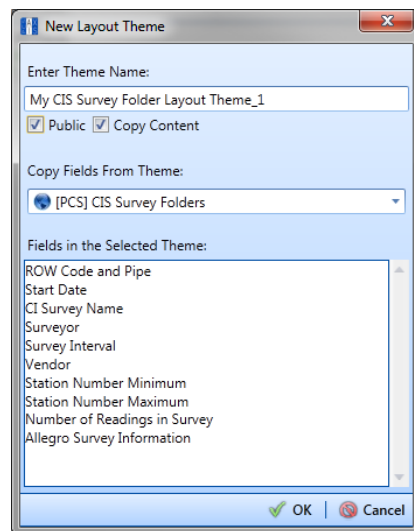

Figure 6-11. New Layout Theme
- 5 Click the **Customize** tab  then the  **Add** button to open the *New Layout Theme* dialog box (Figure 6-11).